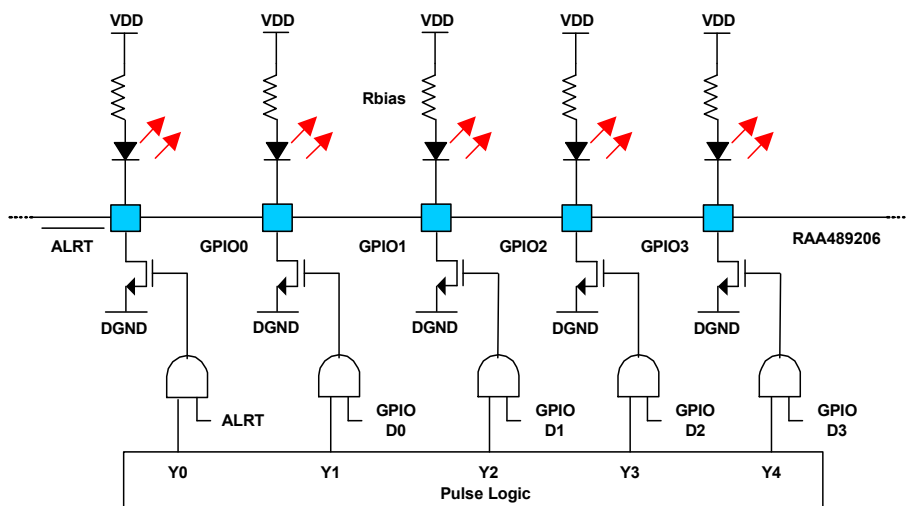

Figure 86. ALRT Pulse EN and GPIOx Drive LEDs
The  $\overline{\text{ALRT}}$  Pulse Enable bit can drive the  $\overline{\text{ALRT}}$  pin in a more power efficient manner. When the bit is 1 and an alert is active, the RAA489206 turns on the  $\overline{\text{ALRT}}$  pin output pull-down device for  $\text{GPIO}_{\text{pulse\_on}}$  (~2ms) within a  $\text{GPIO}_{\text{pulse\_per}}$  (~10ms) period. When this bit is 0 (Default) and an alert is active, the RAA489206 drives the  $\overline{\text{ALRT}}$  pin LOW constantly. Figure 86 illustrates the circuit.
**Drive LED:** This option pulses the GPIO pins in a sequential manner to save power. Each GPIO pin is set LOW for  $\text{GPIO}_{\text{pulse\_on}}$  (~2ms) within a  $\text{GPIO}_{\text{pulse\_per}}$  (~10ms) period. A simplified schematic is shown in Figure 86. See 0x12.3:0 - GPIO STATUS to set the state of GPIO output. Set the GPIO Status bit to 1 to light an LED or to 0 to shut it off.